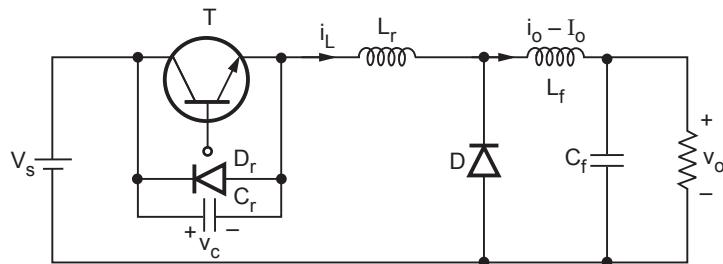
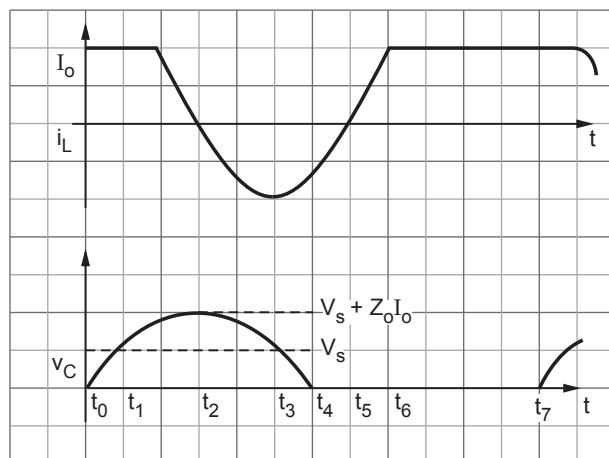

Fig. 5.7.5 ZVS DC-DC converter
Fig. 5.7.6 Waveforms of ZVS DC-DC converter
- Circuit diagram and waveforms :** Fig. 5.7.5 shows the circuit diagram and Fig. 5.7.6 shows the waveforms of the ZVS converter.